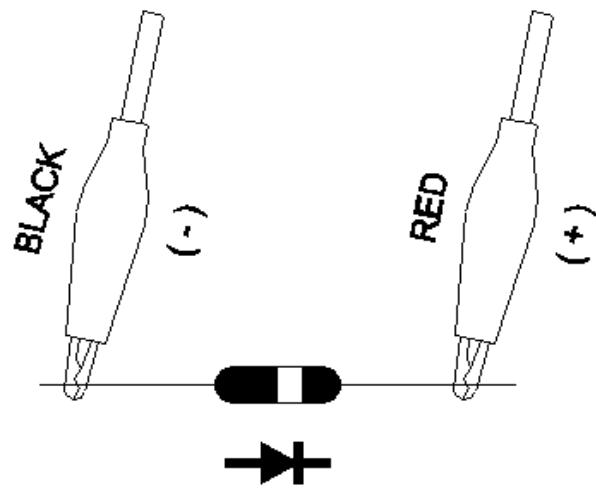

Fig. 3
b. When connected as shown in Fig. 3, a reverse check on the diode is made. If the diode under test is good, " 1 " will be displayed. If the diode under test is defective, ".000" or other numbers will be displayed. Proper diode testing should include both steps a. and b. above.